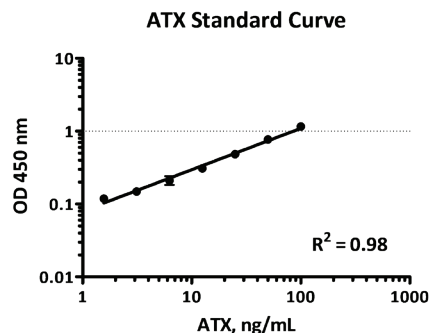

Figure 1. ATX Standard Curve was generated using linear regression in GraphPad by plotting both x-axis and y-axis in log-scale.
- Generate a best fit curve for standards in order to interpolate relative sample values. See Figure 1 and assay note #6 for more information.